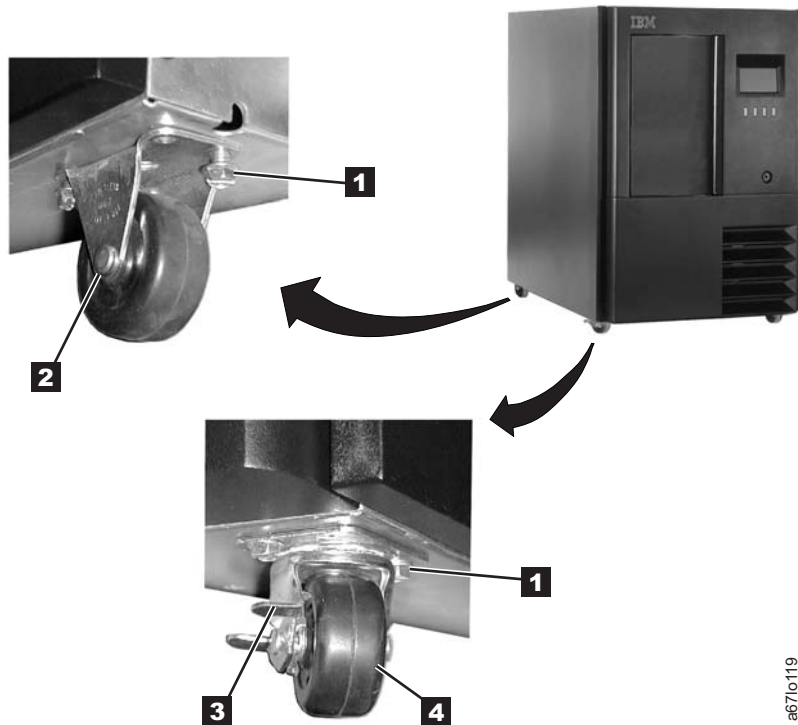

Figure 14-18. Removing the casters
- Remove the four casters (**2** and **4** in Figure 14-18) from the bottom of the library. Use a 3/8-in. wrench to remove the bolts **1** that secure each caster to the frame (there can be up to four bolts).